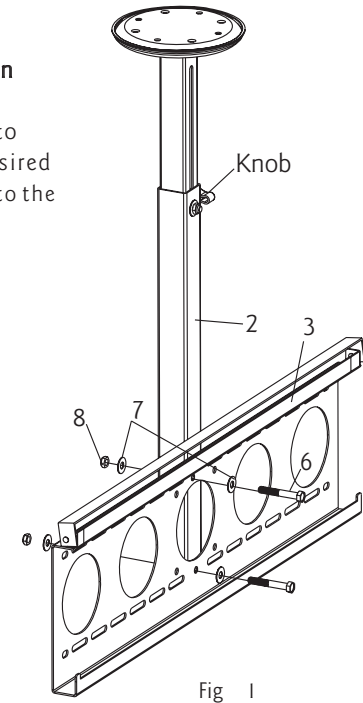

Fig 1
Unpack the components from the box .First, to stretch the Extension Column(2) out to desired or fullest length. Then, fix the Big Plate(3) to the Extension Column(2) with 2 long bolts(6), washers(7) and nut(8),as shown in Fig. 1 .